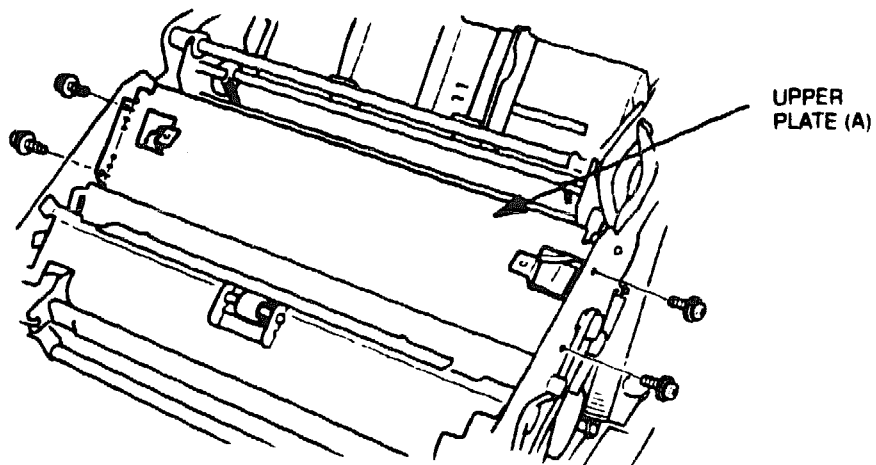

Figure 6-29 Upper Plate (A) Screws
2. Remove the four screws that secure the upper plate (A) on the right and left upper frame assemblies (see Figure 6-29).
2. Remove the screws securing the upper guide plate (A) assembly and remove the plate (refer to Figures 6-29 and 6-30).